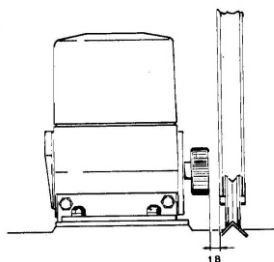

Fig. 7
- To fix the gear motor to the anchor plate, position it so that the distance between sprocket and gate is approximately 18mm. (Fig. 7)